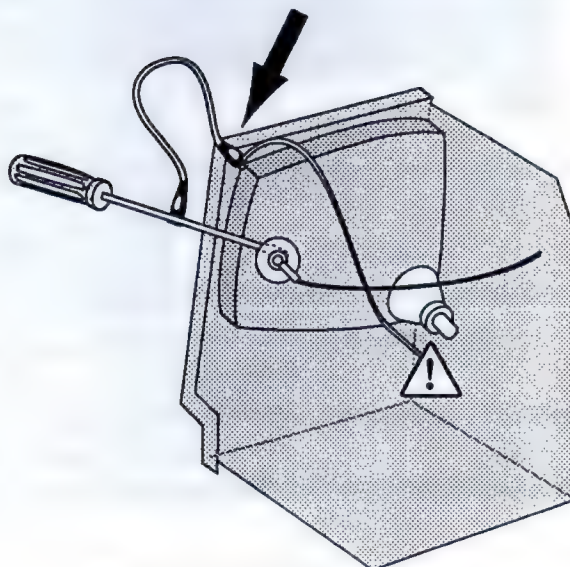

Figure 15 : Discharging the CRT anode
2. Attach the alligator clip of the CRT discharge tool to the metal part of the ground lug exactly as shown in Figure 15. *Do not clip onto the chassis.*